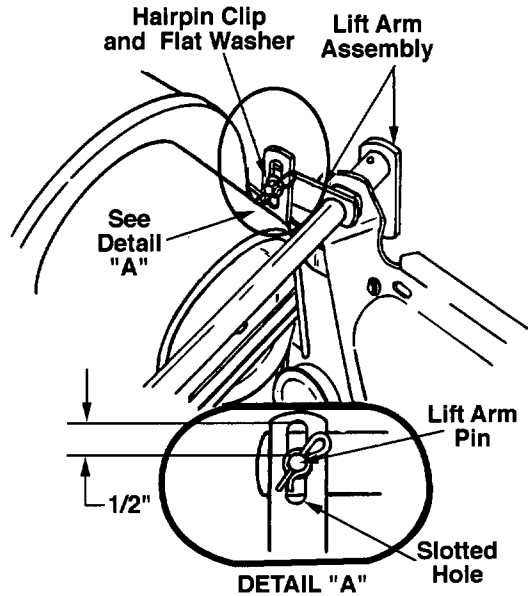

Figure 20
- a. Rotate the lift arm assembly so that the top of the lift arms pins are approximately 1/2" from the top of the slotted holes of the lift links as shown in Figure 20. HOLD the lift arm assembly in this position.